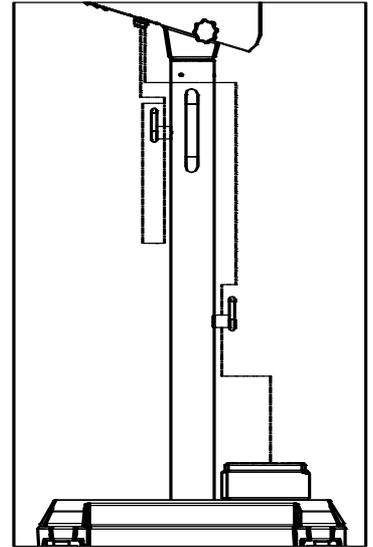

Fig.10
- 5.4.3 Place the footswitch[1] flantly on the balance board[3]. (Fig.10)